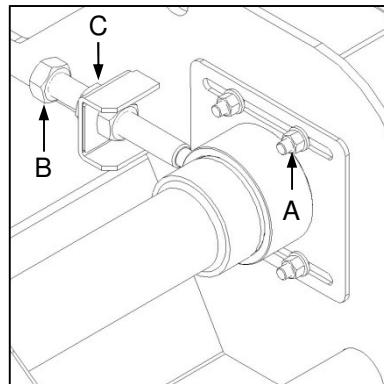

Fig. 11
- ✓ Loosen 4x locking nuts on the drive tensioner baseplate (Fig. 11-A) and 4x gearbox mounting bolts located
- ✓ Laat skiet die 4x sluitmoere aan die dryfbandspannersteunplaat (Fig. 11-A) en die 4x
- ✓ Loosen the tensioner lead-screw locknut (Fig. 11-C) and adjust the lead-screw (Fig. 11-B) to achieve the required belt tension.
- ✓ Laat skiet die spannerleiskroef-sluitmoer (Fig. 11-C) en verstel die leiskroef(Fig. 11-B) om die vereiste bandspanning te verkry.